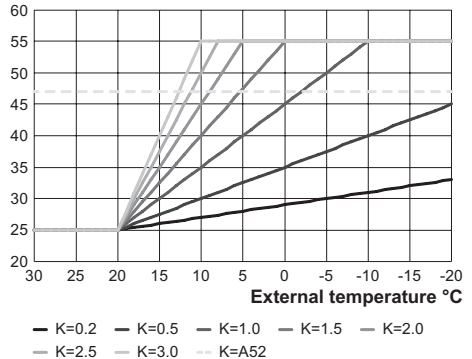
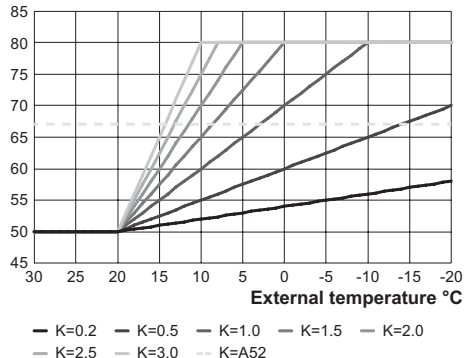

Figure 5.29
Figure 5.30
With heating temperature setting **28-55°C** (Figure 5.29) or temperature setting **50-80°C** (factory set) (Figure 5.30) (see "Selecting the heating temperature set" on page 41).
- Using buttons 15 or 16 it is possible to change the value of parameter P08 from a minimum of **1.0** to a maximum of **3.0** based on the selected curve of the K coefficient in Figure 5.29 (the value read on the display corresponds to the decimal values of the K coefficients).